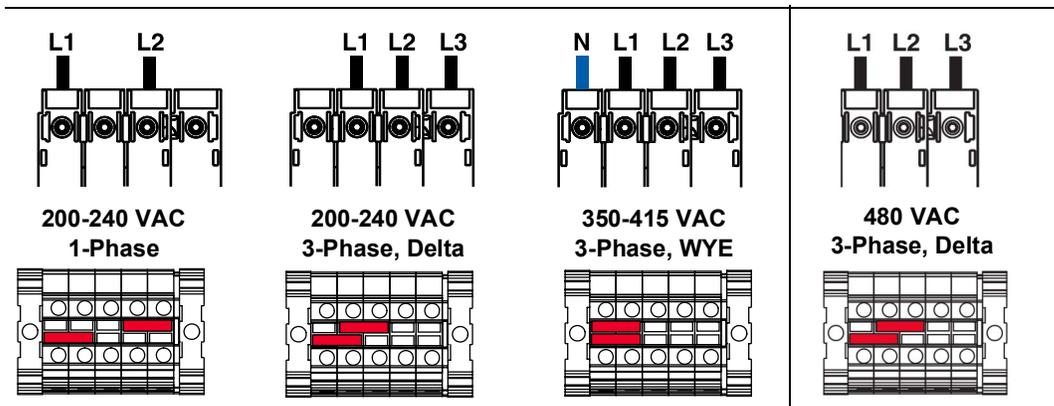

FIG. 7: Terminal Jumpers and Positions
1. Turn the main power disconnect switch (AG) OFF.
4. Connect the ground wire to ground terminal (GT).
5. Connect the power cord as shown (see FIG. 7). Gently pull on all connections to verify that they are properly secured.
6. Tighten strain relief (SR).